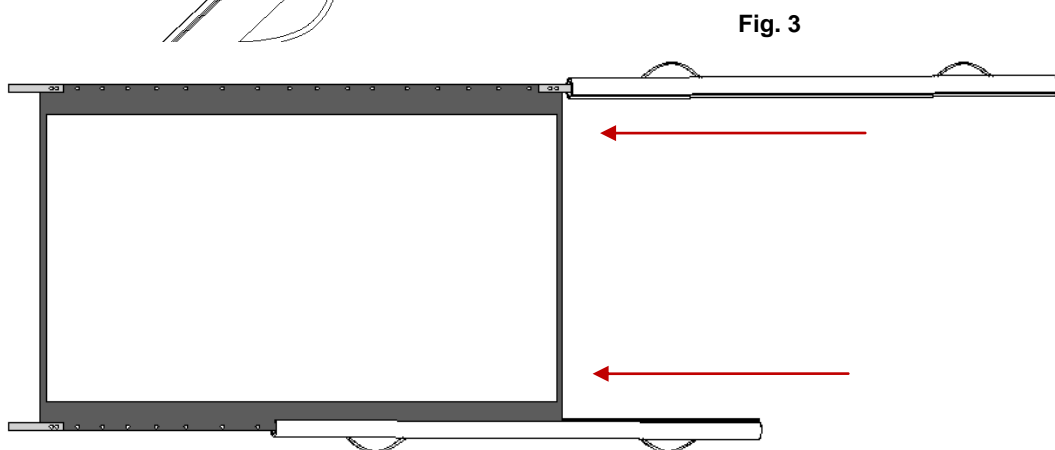

**Fig.1**
2. Take out the **weight bars (A)** and **buttons(C)** from the packaging.
3. Align the **material strip (E)** with the first two (2) holes of each corner, and attach them to the screen material by inserting and fastening the button clips as shown in **Fig. 1**.